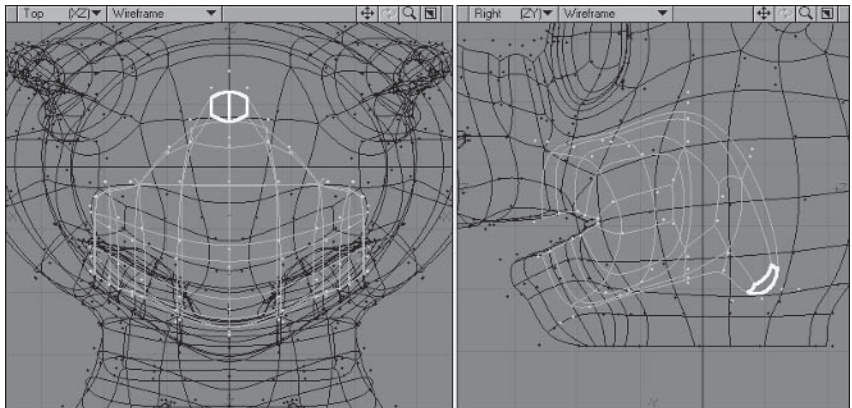

Figure 5.3-100. Creating the back of the throat.
7. Deselect the outside polygon on each side and **Super Shift** in place. Move and adjust to match Figure 5.3-100.